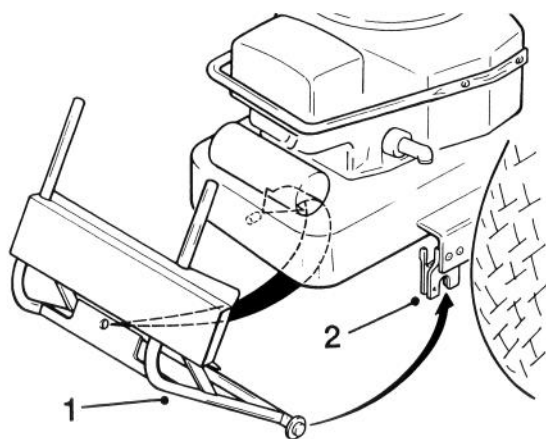

Figure 19
2. Find the pilot pin on the back end of the rider (in the center on the inside of the rider frame) and slide the hole in the center of the quick-attach bracket onto the pin (Fig 19).
- Pull back on the quick-attach bracket until the bottom ends slide into the notches on the side of the rider frame (Fig. 19).